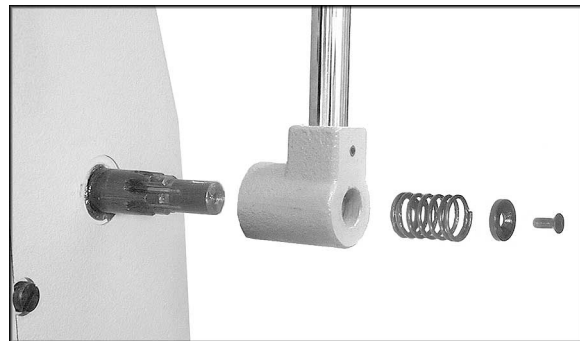

Figure 1
1. Use a 4mm hex wrench to remove the screw, washer and spring from the shaft (Figure 1).